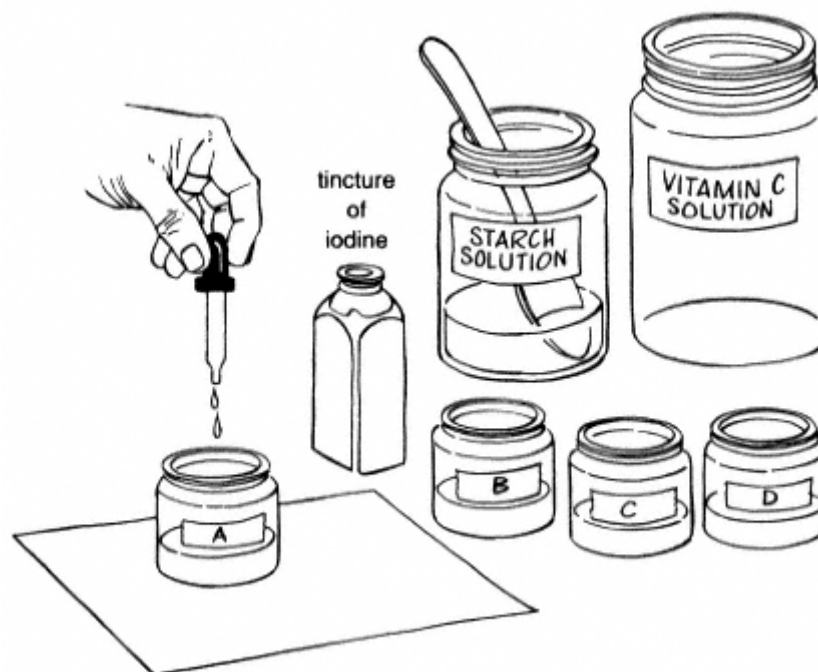

Figure 7.1
6. Fill the eyedropper with tincture of iodine. Slowly add the iodine in the eyedropper to jar A, counting each drop added (see Figure 7.1). Swirl the jar after each addition of five drops. Continue to add the iodine until the jar's contents remain a blue-black color.